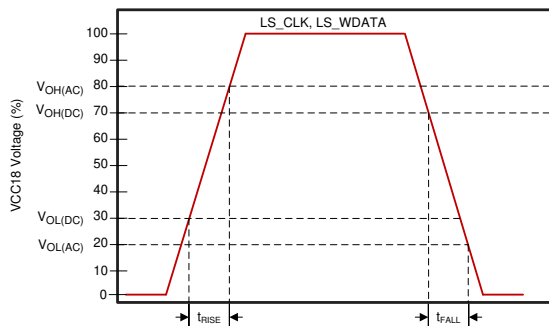
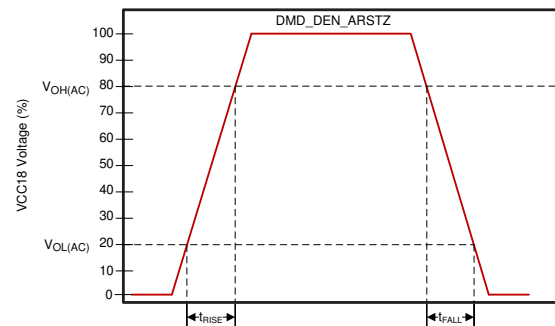

Figure 6-3. LS\_CLK and LS\_WDATA Slew Rate
Figure 6-4. DMD\_DEN\_ARSTZ Slew Rate
- See Figure 6-3 for DMD\_LS\_CLK, and DMD\_LS\_WDATA rise and fall times. See Figure 6-4 for DMD\_DEN\_ARSTZ rise and fall times.